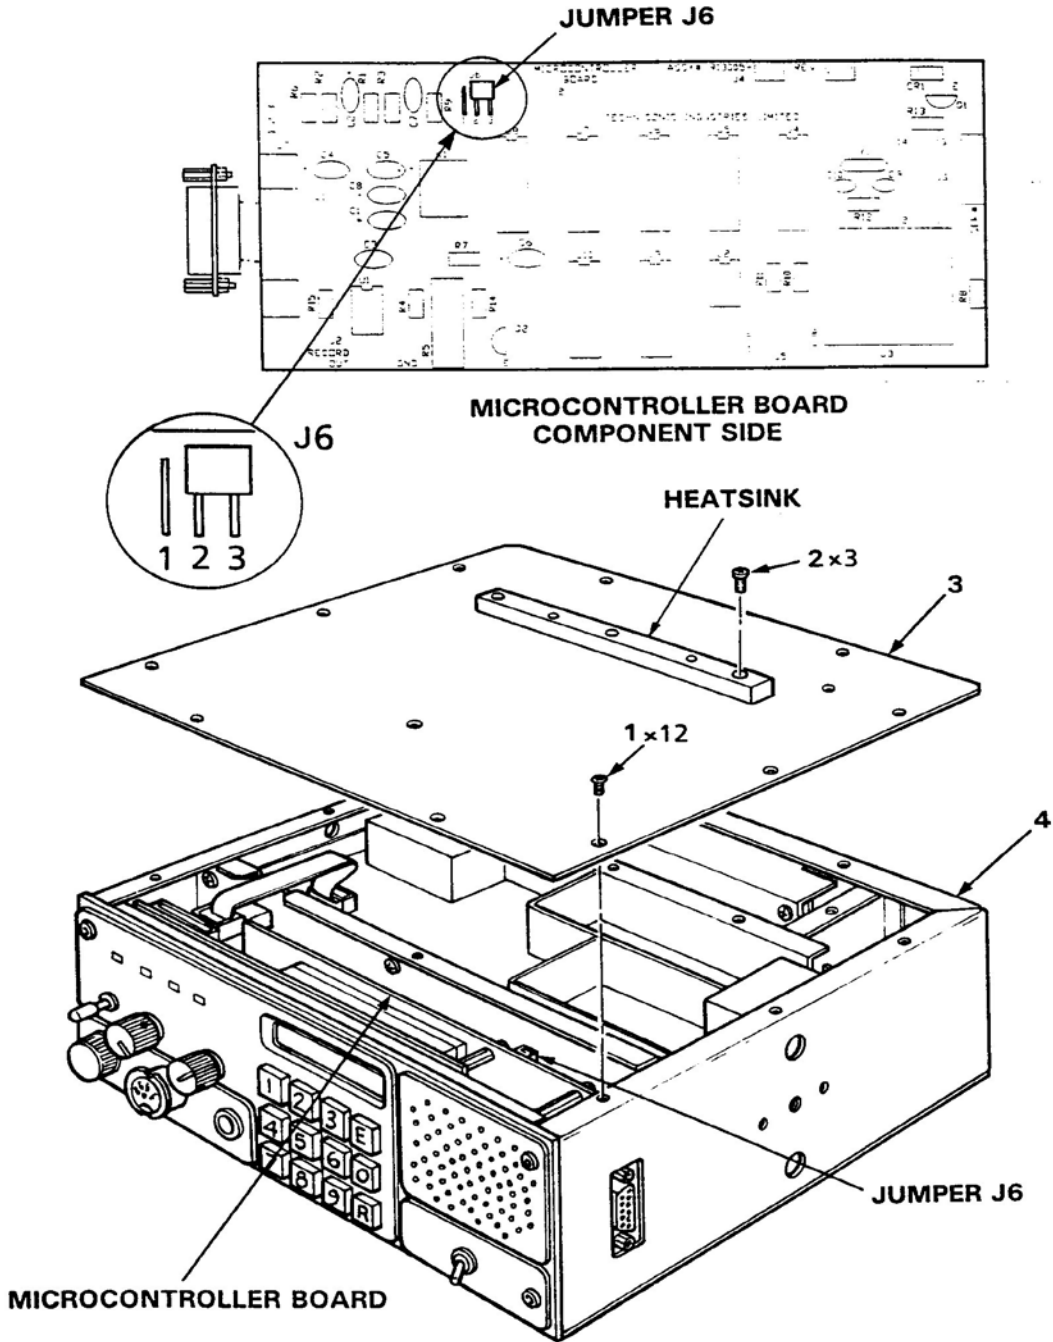

Figure 7: Fixed Channel Jumper Locations
- (1) Refer to Section 2 for Transceiver installation and removal procedures.
- (2) Remove and retain 15 flathead screws (1) securing transceiver top cover (3) to chassis (4). Refer to Figure 7.
- (3) Position Jumper J6 on pin 1 and pin 2 to disable keyboard entry of frequency selection and lock operating configuration.
- (4) Position Jumper J6 on pin 2 and pin 3 to enable keypad frequency selection and unlock operating configuration.
- (5) Position Transceiver Cover (3) on Chassis (4). Ensure that cover holes are aligned with threaded inserts.
- (6) Position 15 flathead screws (1) and through cover (3) holes into chassis (4) threaded inserts. Tighten screws with fingers.
- (7) Tighten screws securing Transceiver Cover (3) to Chassis (4).
- (8) Refer to Section 2 for Transceiver installation and removal procedures.